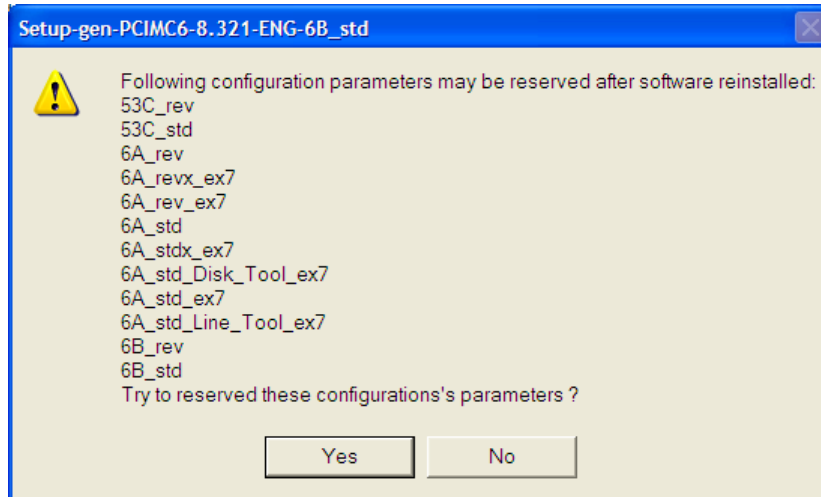

Fig. 2-3 Prompt to reserve parameter settings
- Click [OK] for confirmation. If old version software has been installed in this PC, the system will prompt to save its parameter settings. If you save the parameter settings here, you can apply all the settings to the current software, needless to set the parameters again afterwards. You can make your own decision and choose [Yes] or [No] to go ahead, see Fig. 2-3. If you install the software of the type for the first time, this step would be absent. Please jump to “Step 6)” to move on.